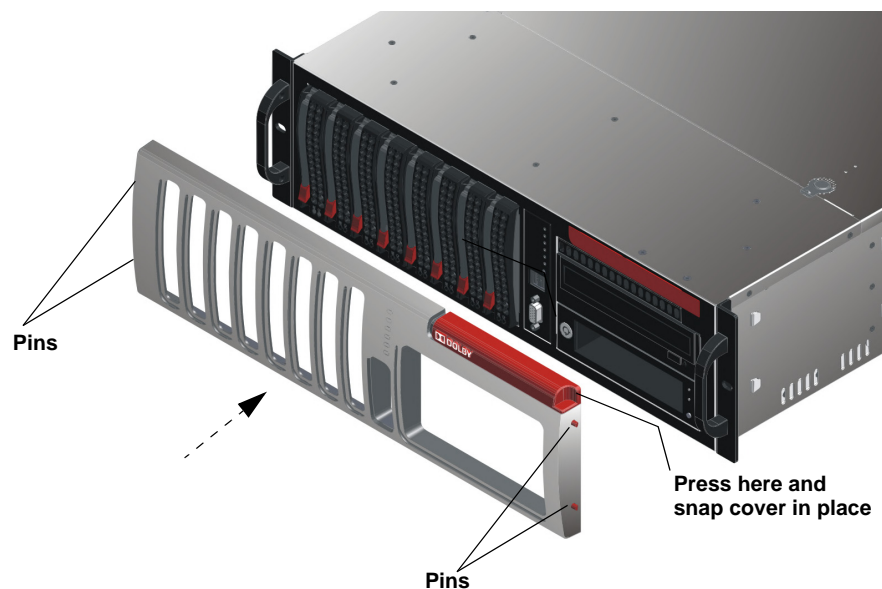

Figure 4-7 Replace Front-Panel Cover
- Place a finger on the cover's right indent, press inward to depress the two pins, line up the pins with their respective holes, then release your finger to insert the pins and snap the cover in place (see Figure 4-7).